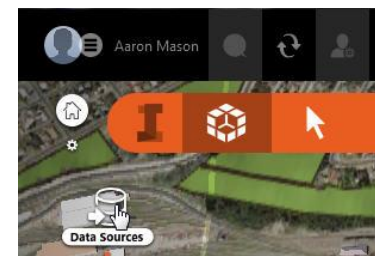

Figure 16: Data Sources for Importing Point Clouds
- Pick the “Data sources” button (Figure 16)